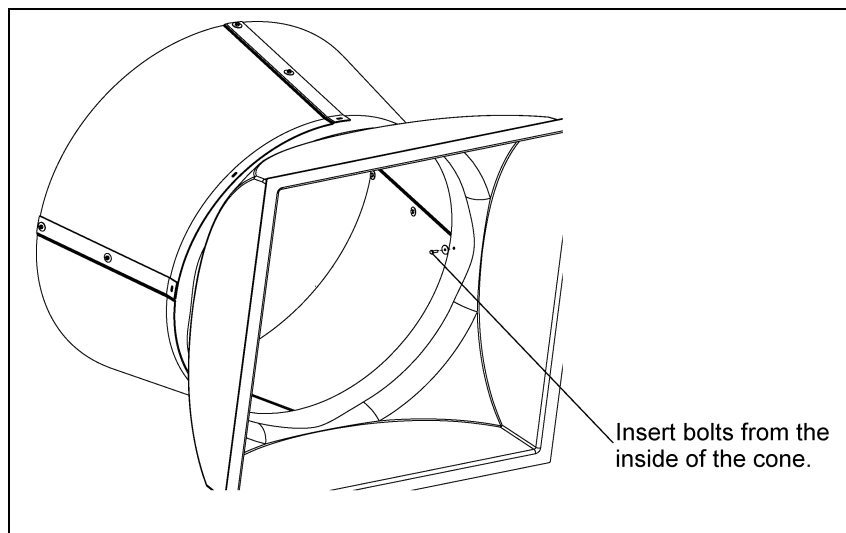

Figure 3E
Bolt the cone to the housing orifice using eight (8) 5/16" SS flange bolts, eight (8) 5/16" flange nuts and sixteen (16) 5/16" x 1-1/2" fender washers. Insert bolts from the inside of orifice through the cone as shown in Figure 3E below. Tighten all bolts and nuts securely.
3. Insert the grill guard inside of the cone, push back towards the prop until the grill fits snug against the inner portion of the cone. Using the eyelets of the grill guard as the template, mark four (4) locations through the eyelets.
4. Drill through the marks with a 5/16" drill bit. Re-install the grill and bolt securely using four (4) 5/16" x 1" SS flange bolts, four (4) 5/16" SS flange nuts and eight (8) 5/16" x 1-1/4" fender washers.